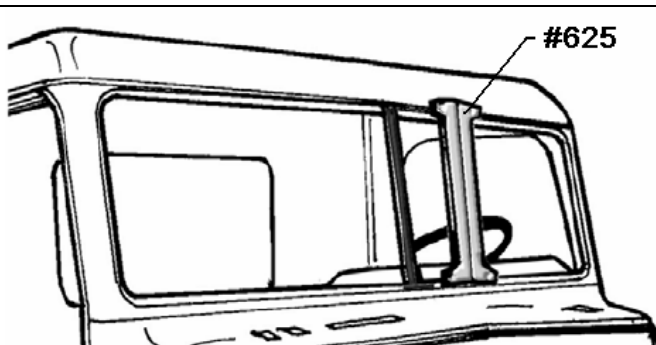

Figure 5-80. Windscreen Kit Installation (1 of 7).
1. The OEM windshield should have been removed during vehicle preparation. If not, remove at this time. Prepare the area around the windshield opening by cleaning the surrounding surface. Lay part #625 in place as shown in Figure 5-80.